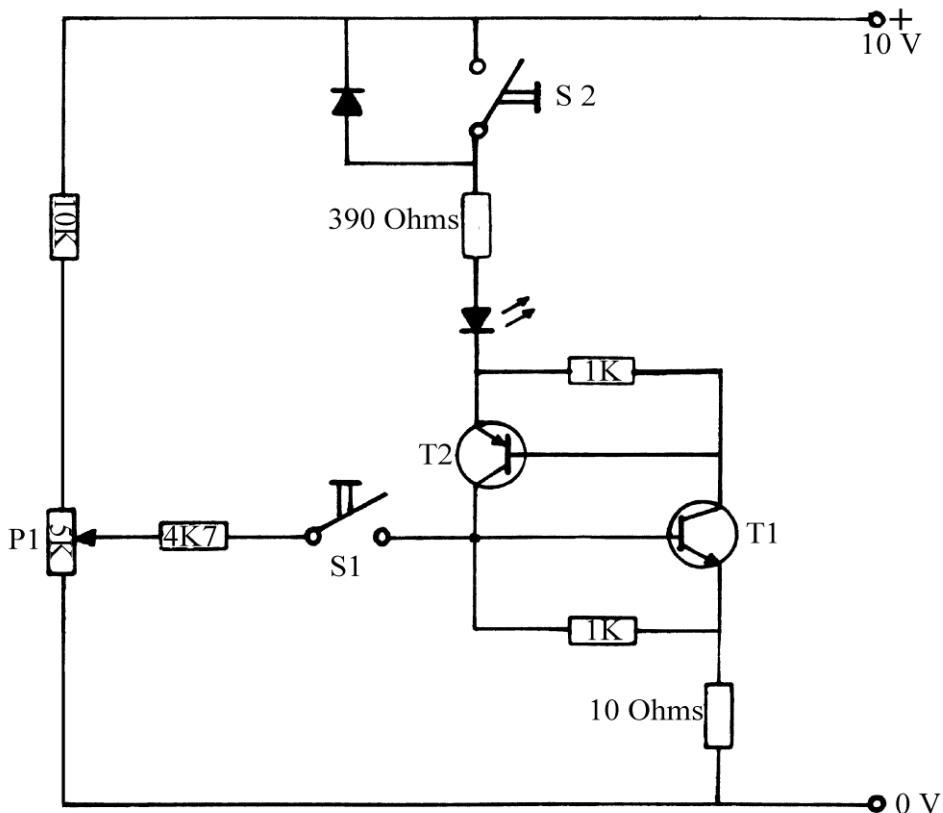

Figure 3
- Test the circuit shown in Fig. 3 on the next page.